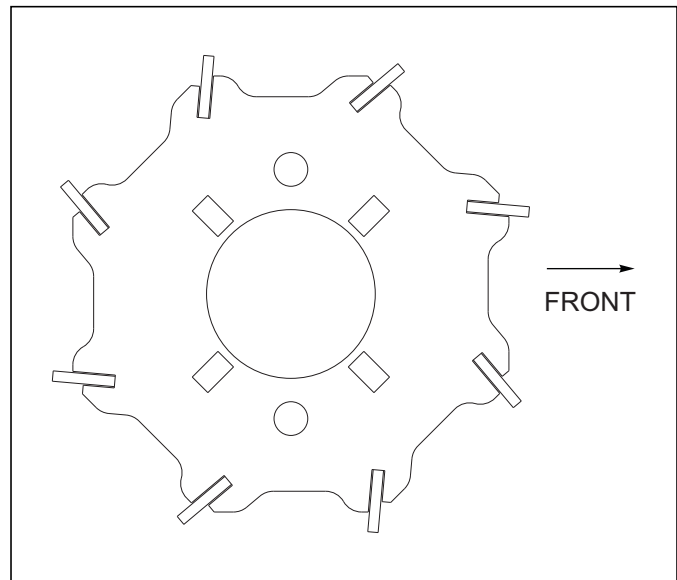

Figure 4-26: Flat Reel
5. The 12" diameter reel consists of nine 3/4" diameter round bars with a chevron shape for smoother rotation. The reels have no inner shaft to reduce plugging in wetter conditions. The reels operate independently of the 3 row spike with two spring loaded arms per reel to maintain consistent down pressure. A 12" diameter spiral wound reel with 1/4 x 1-1/2 angled blades is also available. The blades on flat bar reels are angled for more aggressive action. Install the reels as shown **See Figure 4-26..**